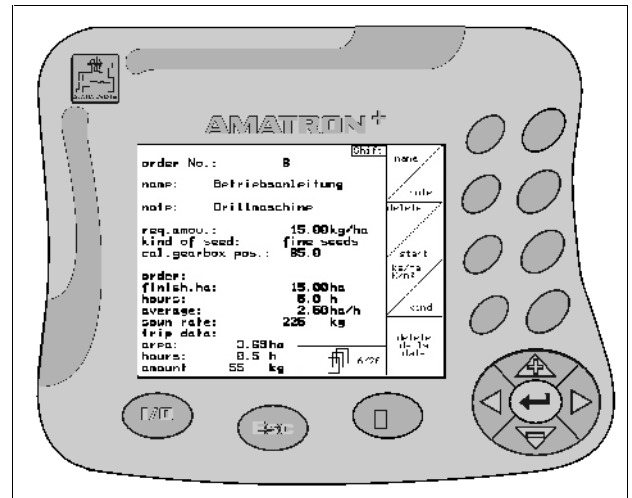

Fig. 7
**AMATRON+** consists of the terminal (Fig. 7), the basic tractor equipment (fixed in the cab) and the job computer on the machine.